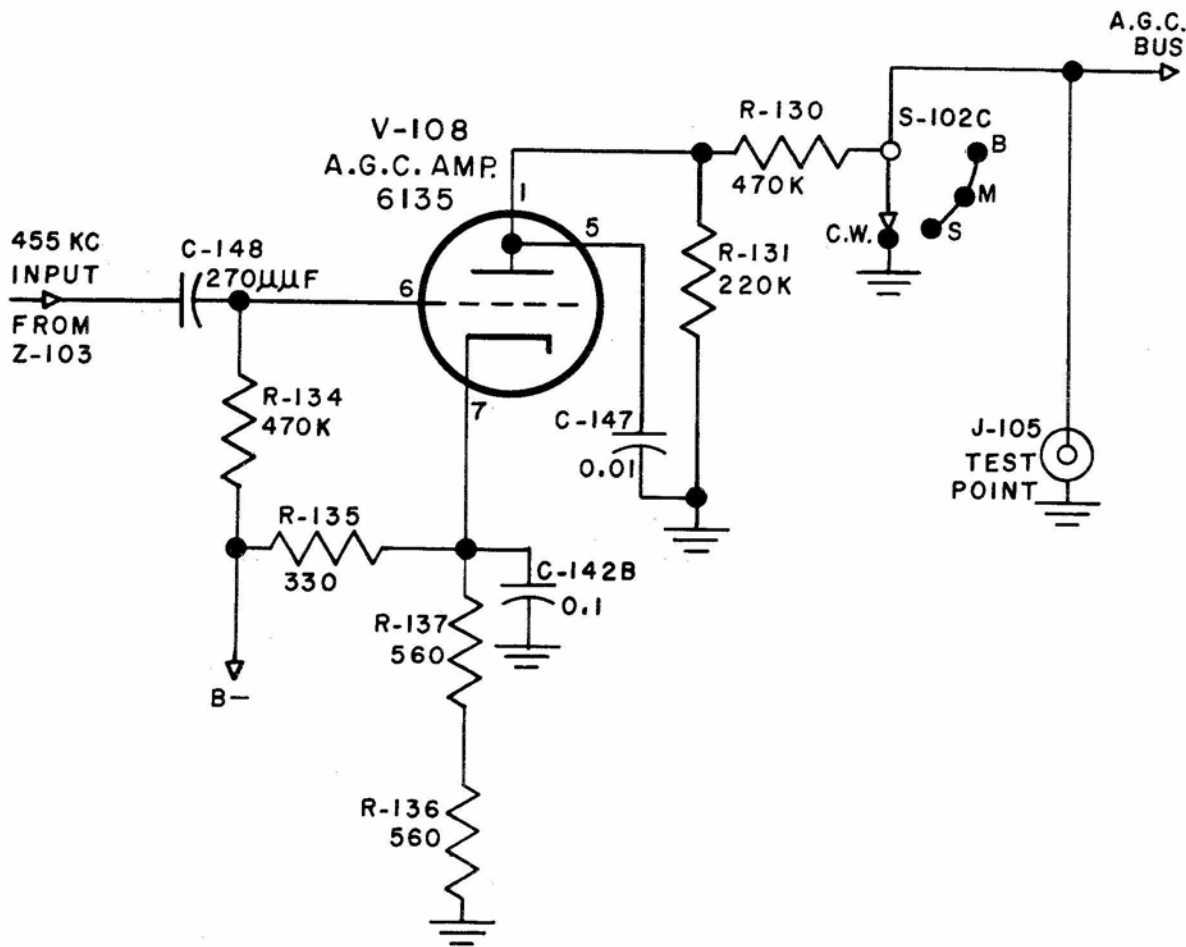

Figure 2-7. A.G.C. Amplifier V-108, Simplified Schematic Diagram
g. AUTOMATIC GAIN CONTROL V-108 CIRCUIT DETAILS. (See Figure 2-7.)—V-108 is a type 6135 triode used as the A.G.C. amplifier in the receiver, rectifying signals taken from the secondary of detector input transformer Z-103 and applying a corresponding D.C. negative voltage to the grids of R.F. amplifier V-101, mixer V-103 and first I.F. amplifier V-104. This biasing voltage controls the amplification of those three stages in inverse proportion to the strength of the signal being received. That is, when a strong signal is being received, A.G.C. amplifier V-108 converts the signal to a large negative voltage and applies this negative voltage to the A.G.C. bus. The control grids of the three controlled stages are connected to the A.G.C. bus so these A.G.C. voltages are actually grid biasing voltages which vary with the strength of the received signal and thus control the
The plate of A.G.C. amplifier V-108 is connected to ground through plate load resistor R-131 while the cathode is connected to the B-minus lead through R-135. It will be noted at this time that the only connection within the receiver between chassis ground and B-minus is through the voltage divider network consisting of resistors R-135, R-137 and R-136 which are shown in Figure 2-7 as being in the cathode circuit of V-108. Therefore, the total cathode current of all tubes used in the receiver passes through these three resistors. In normal operation this current produces a negative voltage of approximately 60 volts at the cathode of V-108 while the B-minus lead is approximately 70 volts more negative than chassis ground. The value of resistor R-135 has been chosen so that the proper grid voltage to bias V-108 beyond cutoff is developed across R-135 and passes through grid leak resistor R-134 to the grid of V-108. With no signal or a very weak signal being received by the re-